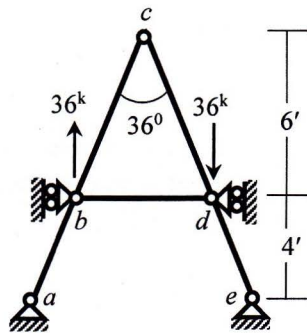

Fig. 2
- Use Stiffness Method to calculate (i) the unknown deflections at joint *b* and *d* and (ii) member forces of the plane truss *abcde* loaded as shown in **Fig. 2** [Given: $EA/L = 1000$ k/ft].